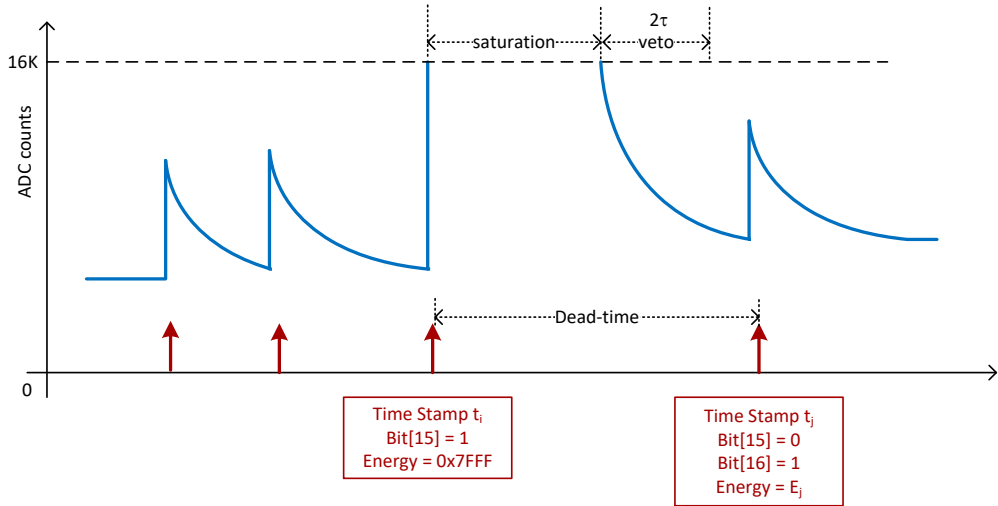
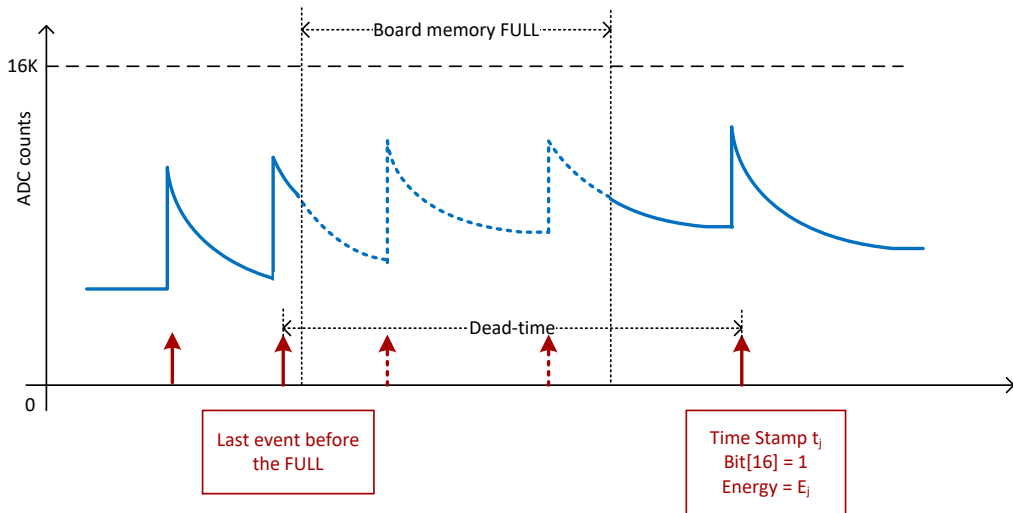

Fig. B.4: Dead-time in case of signal saturation.
Fig. B.5: Dead-time in case of FULL memory status. Events in the FULL are identified but not saved.
EXTRAS: bit[0] = DEAD\_TIME. This is set to 1 when a dead time occurred before this event. The dead time can be due to either a signal saturation or a full memory status. Check **Fig. B.4** and **Fig. B.5** for more details
1. DEAD\_TIME in case of signal saturation (see **Fig. B.4**). If the input signal is over-range (exceeds the input dynamic range of 16k ADC channels) then the acquisition is inhibited. As soon as the input signal is in saturation an event is saved with the corresponding time stamp, and bit[15] set to 1. The energy value is set to the maximum. This event has to be discarded for the energy spectrum, anyway it can be considered for the dead-time calculation. Once the signal is out of saturation a new trigger is inhibited for a time window of 2\*Decay Time. The first event after the saturation is tagged with bit[16] = 1.
2. DEAD\_TIME in case of FULL board memory (see **Fig. B.5**). When the memory of the board is full (which is usually due to a write event), the board is not able any more to transfer the event data. When the board is ready again, the first event after the FULL will have the bit[16] set to 1, and the energy value as read from the algorithm. The dead-time is equal to the time difference between the last trigger occurred and the trigger after the FULL status.